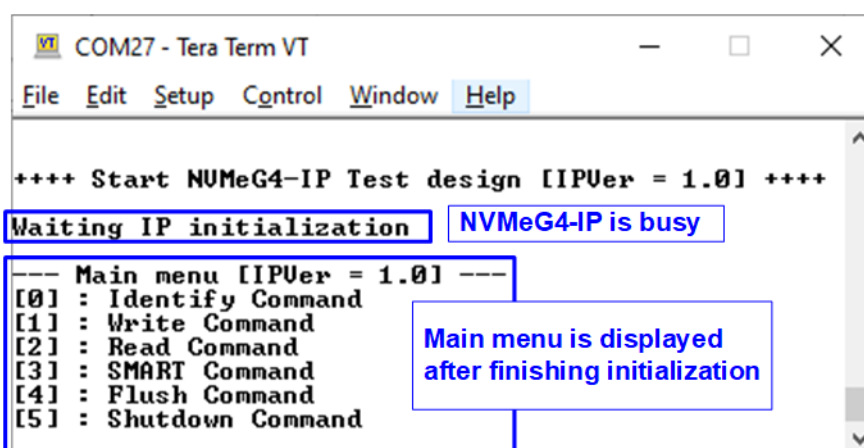

Figure 2-8 Main menu after finishing initialization
- After finishing IP initialization, Main menu is shown on the console as shown in Figure 2-8.